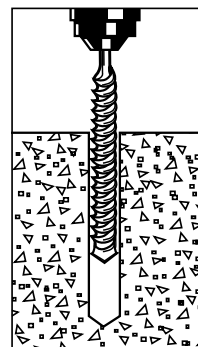

Figure 3
5. Drill the marked holes using a 1/4" masonry drill bit. Drill the holes into the concrete base to a depth of at least 1/2" deeper than the length of the 1/4" x 3" Wedge Bolt Anchors. Blow the hole clean of dust and debris (Figure 3).